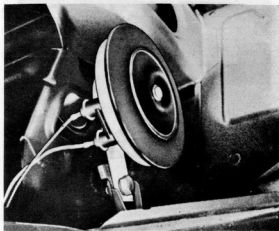

Fig. 10.22. Location of horn (Sec. 21)
- 1 On models with a radiator grille, a single horn is located behind the grille, which needs removing in order to allow access. On models without a grille, the horn is located on the front panel adjacent to the radiator (Fig. 10.22), access being gained through the radiator air intake.